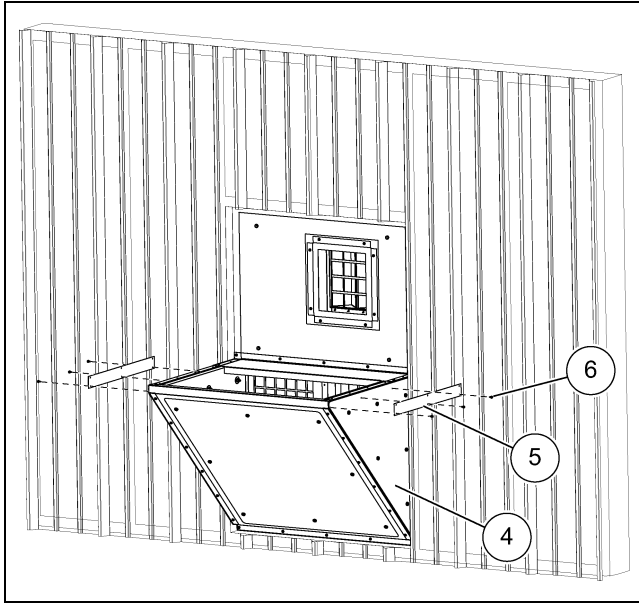

Figure 3
3. Install the hold-down plates (5) to the knee braces (4) using self-drilling screws (6). (See Figure 3.)